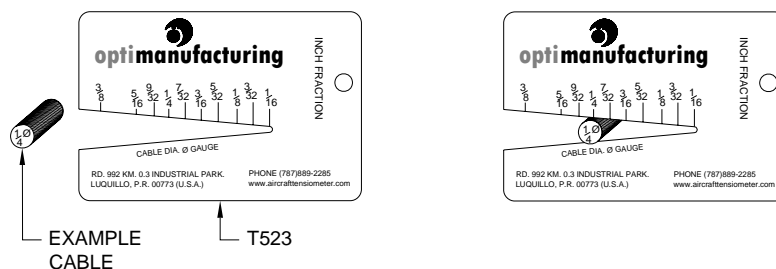

Figure 2-Cable Size Gauge
a. Confirm cable size being tested using the supplied Cable Size, Gauge, P/N T523.(See Figure 2)